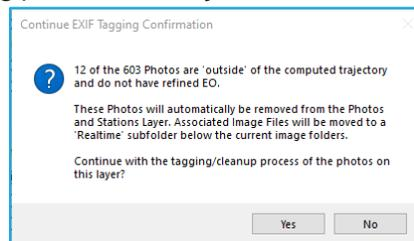

Figure 97 - EXIF Tagging Confirmation
- 14. A confirmation dialog (Figure 97) will appear showing the number of images that will be removed. This is a result of those images being outside of the corrected trajectory time frame and normal for the tagging process. Select yes to continue.